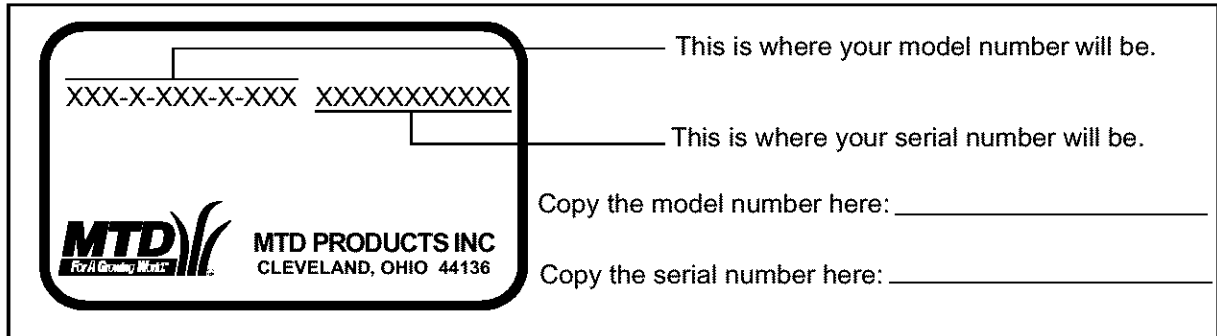

Figure 1
- Every chipper shredder vacuum has a model plate. You can locate it by standing behind the unit in the operating position and looking down behind the engine. See Figure 1.